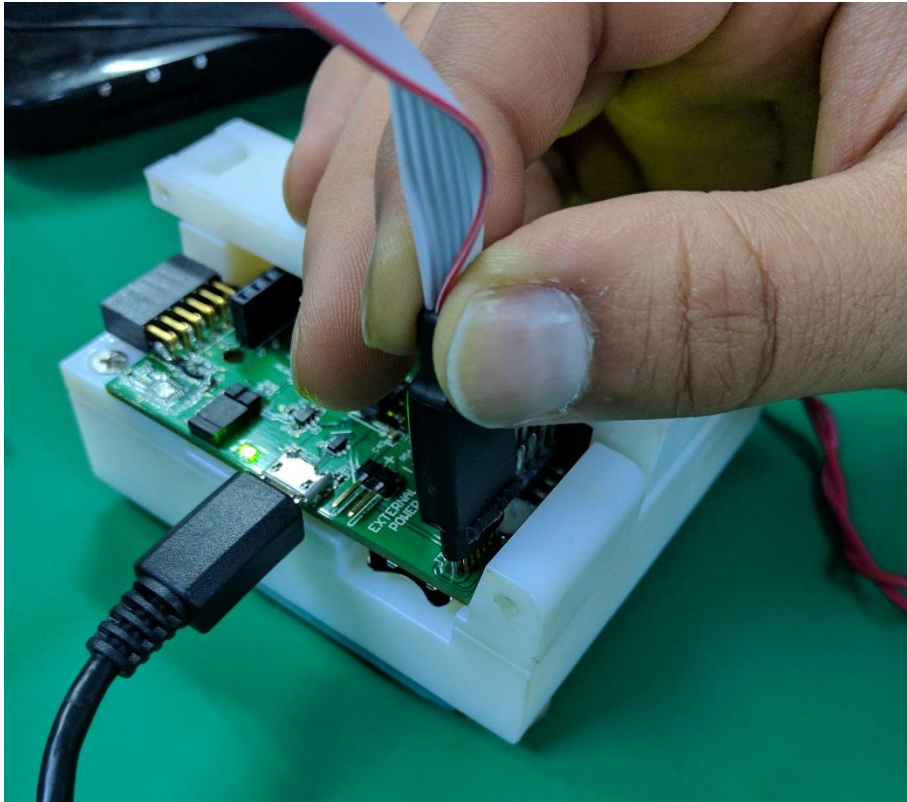

Figure 9: The Jlink programmer cable connects the board.
1. Connect the Device Under Test (DUT) to the laptop with the micro USB cable. This will supply power to the board. See Figure 9. Note that the board does not need to be in the testing jig for this process.